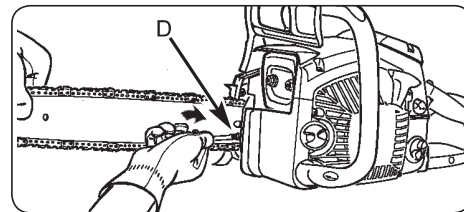

Fig. 4B
1. Hold nose of guide bar up and turn adjustment screw (D) clockwise to increase chain tension. Turning screw counterclockwise will decrease amount of tension on chain. Ensure the chain fits snugly all the way around the guide bar (Fig. 4B).